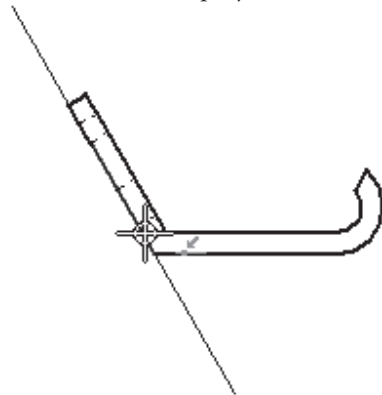
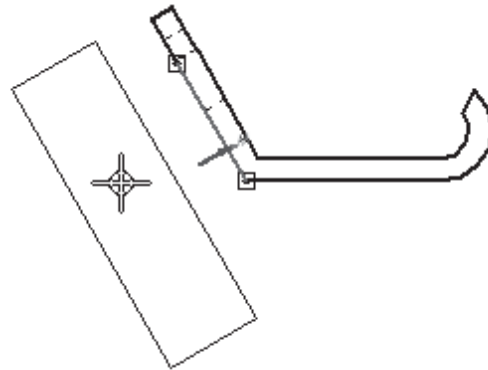
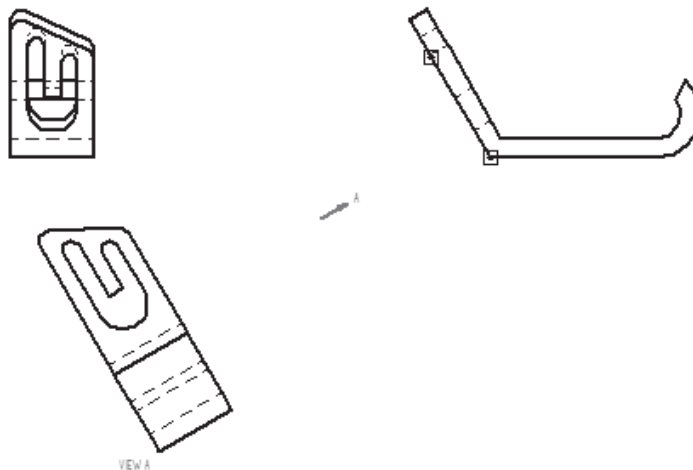

Figure 11-39 Edge to be selected
Figure 11-40 Moving the cursor to place the view
Figure 11-41 Drawing sheet after generating the auxiliary view
- Generate the drawing views, refer to Figure 11-41.
2. Select the edge, as shown in Figure 11-39. An imaginary fold line is formed and the auxiliary view is projected normal to this fold line. Move the cursor and to place the view, see Figure 11-40. After you place the view, the arrow pointing in the direction normal to the fold line is displayed, as shown in Figure 11-41.